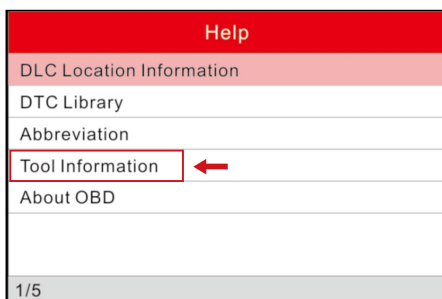

Figure 5
7. Select **Tool Information** (refer to Figure 5), press **OK** button to enter.